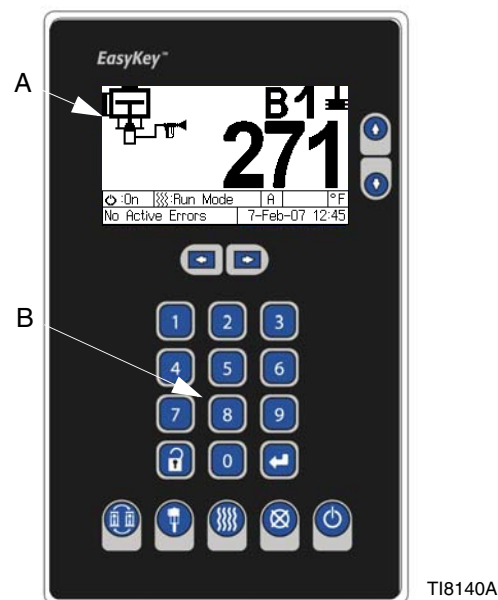

FIG. 7: EasyKey Display and Keypad
The EasyKey Display is a simple user interface consisting of an LCD display (A) and keypad (B). See FIG. 7.